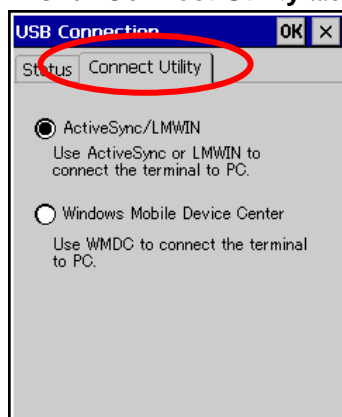

Figure 5.20
- To resume the factory default setting, choose **ActiveSync/LMWIN** radio button in Step 3 on the previous page (see Figure 5.20), and start up the DT-X8 again.